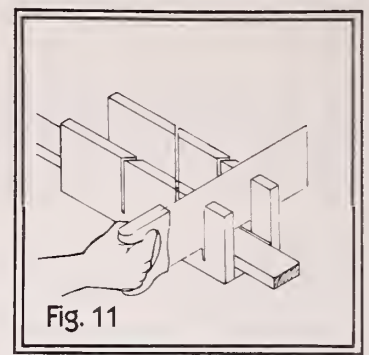

Fig. 11
2. Using the putty knife, apply asphalt roofing cement over the leak area and spread it with the knife (fig. 11).
2. Place the board in the miter box with the hand saw placed at the 90 degree miter (fig. 11). Make the cut just slightly to the outside of the cut line.
10. Place the riser first by putting it in its location under the nosing of the upper tread and against the cutout of the stringers (fig. 9). Now nail the riser into place by face-nailing it to the stringers (fig. 10). Then nail the upper tread down on the riser (fig. 11). Space the nails the same as the old nail spacing, or approximately 6 inches apart.